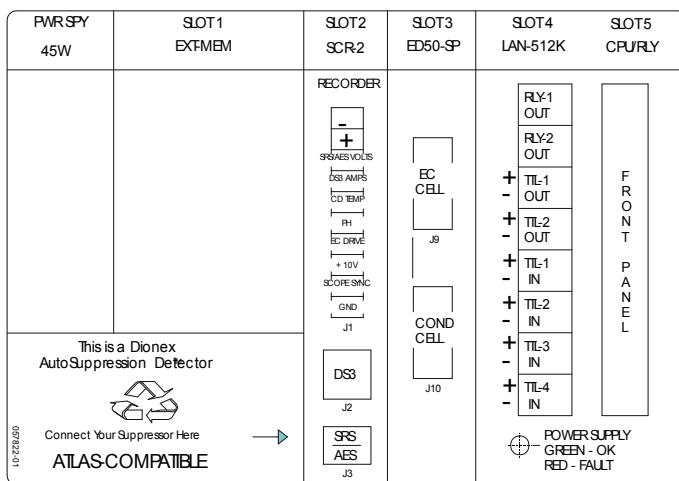

Figure B-14. Electronics Chassis Components (Located behind front door)
5. Connect the cable to the **EC CBL** connector on the SP card (see Figure B-14).